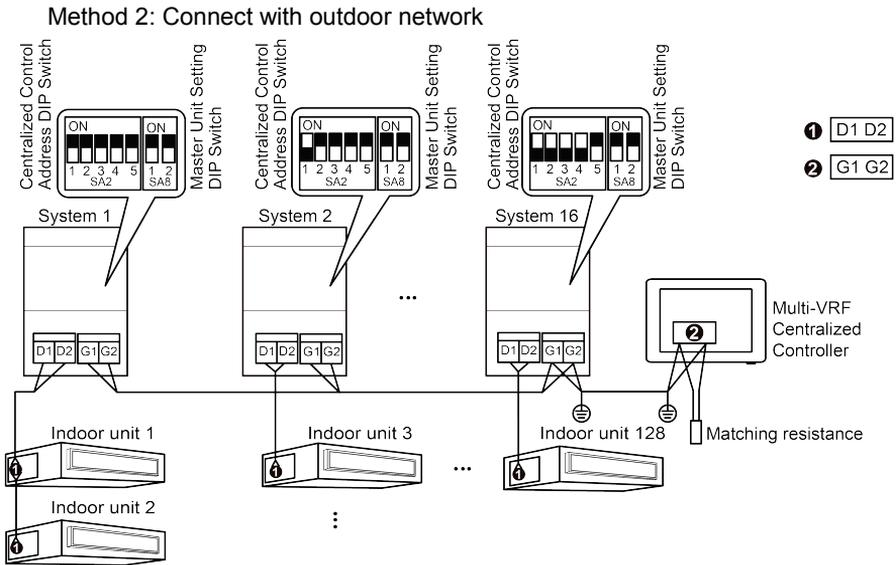

Fig.3.5 Centralized Controller Connected with Outdoor Network
- (3) If the centralized controller is to be connected with the network of outdoor units, connect according to fig.3.5. The centralized controller can only be connected with the terminal system of the outdoor network, and connect the shielded layer of twisted pair line to ⏏ . A matching resistance needs to be added with the communication cords at the G1 and G2 ports.
- (4) The centralized control address DIP switch (SA2_Addr-CC) indicates the centralized control address required when different refrigerating systems are controlled in a centralized manner. The default factory setting is "00000".